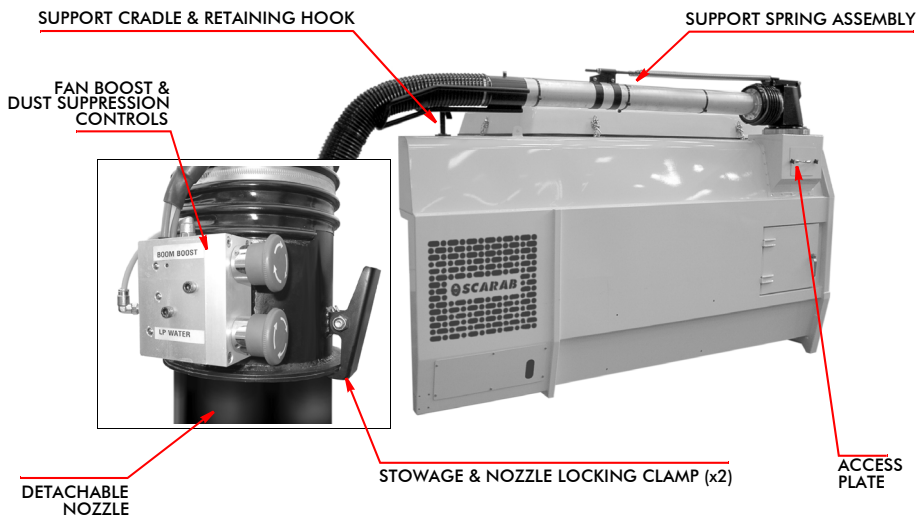

Fig. 11 The Overhead Wander Boom
2. Demount the hose assembly from its stowage as detailed at Fig. 11, dismount the detachable nozzle and connect it to the wander hose nozzle mount (note that there is a keyway to positively locate the nozzle in its mount) and swing-out the entire assembly to the required position.
3. Operate the wander boom controls to select the dust suppression spray and, if required, the additional fan boost speed as detailed at Fig. 11). The wander boom is now ready for use.